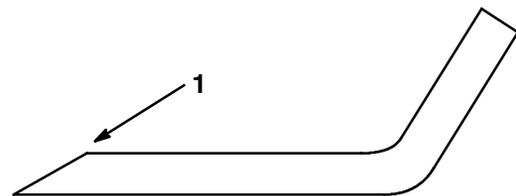

**Figure 25**
- Grasp the end of the blade using a rag or thickly padded glove. Then remove the blade bolt, washer, and blade (Fig. 25). A block of wood may be wedged between the blade and mower to lock the blade when you are removing the bolt.
1. Install the blade, washer, and blade bolt (Fig. 25).